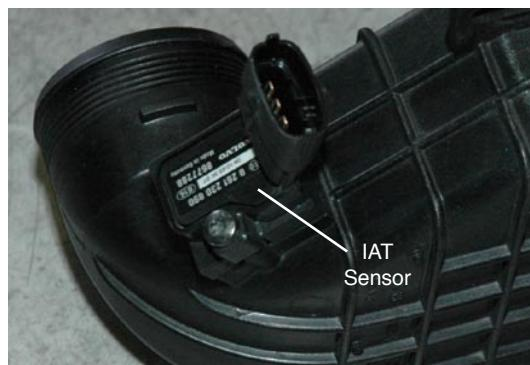

Figure 3.4
- Locate the IAT sensor on intercooler (see Fig. 3.4).
- Remove the one (1) T20 Torx fastener securing IAT sensor to intercooler.